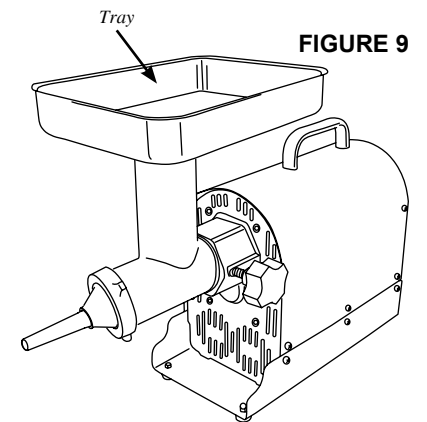

FIGURE 9
8. NEVER operate **Grinder** without the **Tray** secured in place (Figure 9).